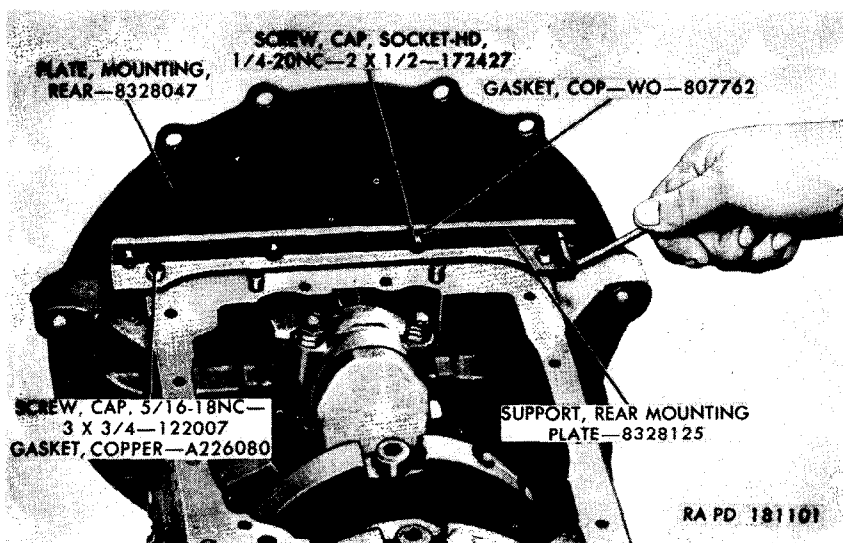

Figure 90. Tightening rear mounting plate support cap screws.
b. Install two $\frac{5}{16}$ -18NC-3 x $\frac{3}{4}$ cap screws (fig. 90) and two copper gaskets to attach the rear mounting plate support to the underside of the cylinder block. Tighten the screws to 12-17 pound-feet torque.
c. Tighten the $\frac{1}{4}$ -20NC-2 x $\frac{1}{2}$ socket-head cap screws (fig. 90) attaching the rear mounting plate support to the rear mounting plate.